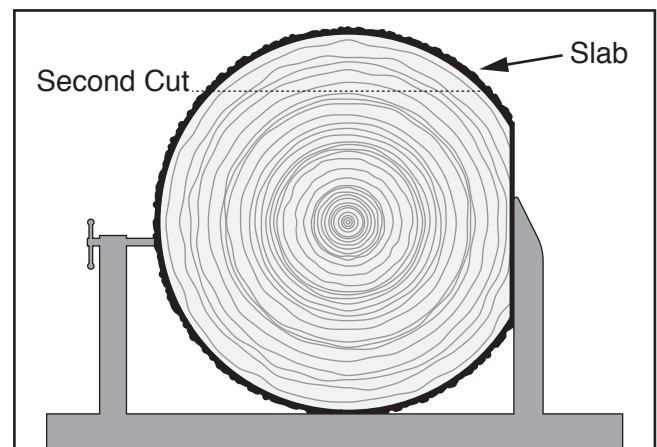

Figure 43. Cant rotated for second cut.
4. Rotate cant 90° and secure using log supports to ensure cant is square to track (see **Figure 43**).